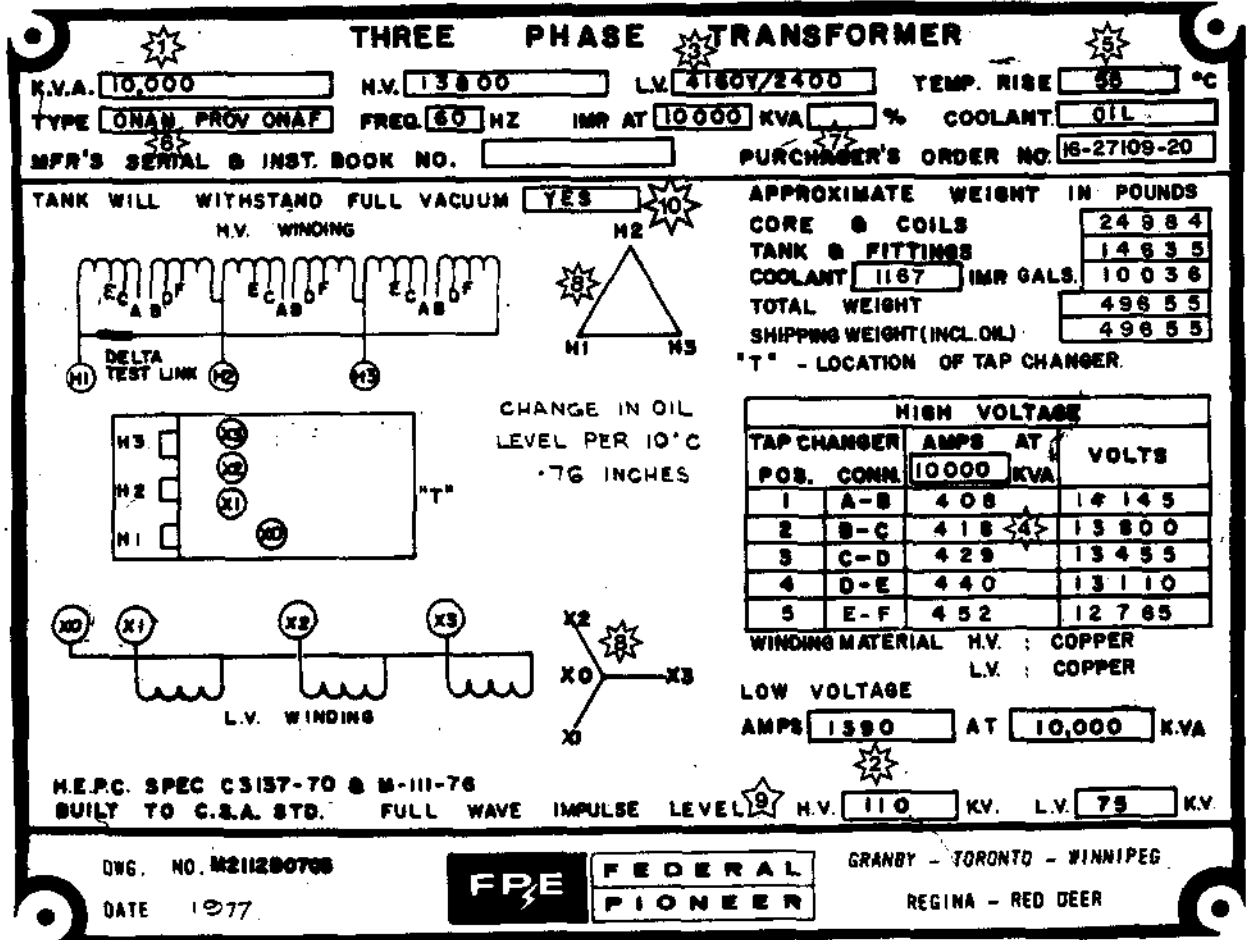

Figure 1
The following section describes a typical transformer nameplate which is shown in Figure 1. Marked on Figure 1 are encircled numbers (1) to (10). The reference numbers for the following sections correspond to these encircled numbers.
☼ The primary and secondary windings on a three phase transformer are connected in either star or delta formation. The "star point",  $X_0$  (see Figure 1) of a star winding is connected to ground and this ensures the line terminals have equal and balanced voltages to ground. The delta winding, because it does not have a common (star) point, is not connected to ground at the transformer. (A delta winding is grounded by connecting it to a system which is grounded at some other point, see course 235 for details.)